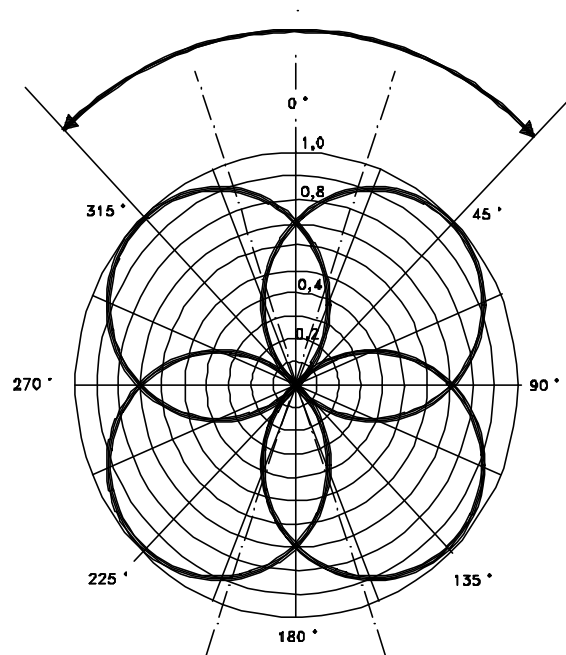

Fig. 13
In principle, the deviations of the real patterns from the ideal ones in both the MS and XY systems will cause a frequency dependent displacement of sound sources during replay. With the help of Fig. 13 these influences can easily be explained. For instance: at lower frequencies the MS combination according to Fig. 13, 1c changes into the combination of 1b, which means an increase of the recording range; at higher frequencies the MS combination according to Fig. 13, 1b changes into the combination of 1d, which means a decrease in recording range.
The equivalent mono-signal (Fig. 13), also delivers information about how diffuse sound (reverberation, noise of the audience) will be recorded during a stereophonic recording.
- a practice-oriented microphone arrangement with a not too big recording range and a sufficient suppression of diffuse sound (Fig. 13, 1c and 2c) will not be satisfactory in the XY system since the necessary hyper cardioid characteristic is normally very frequency dependent or is not available.